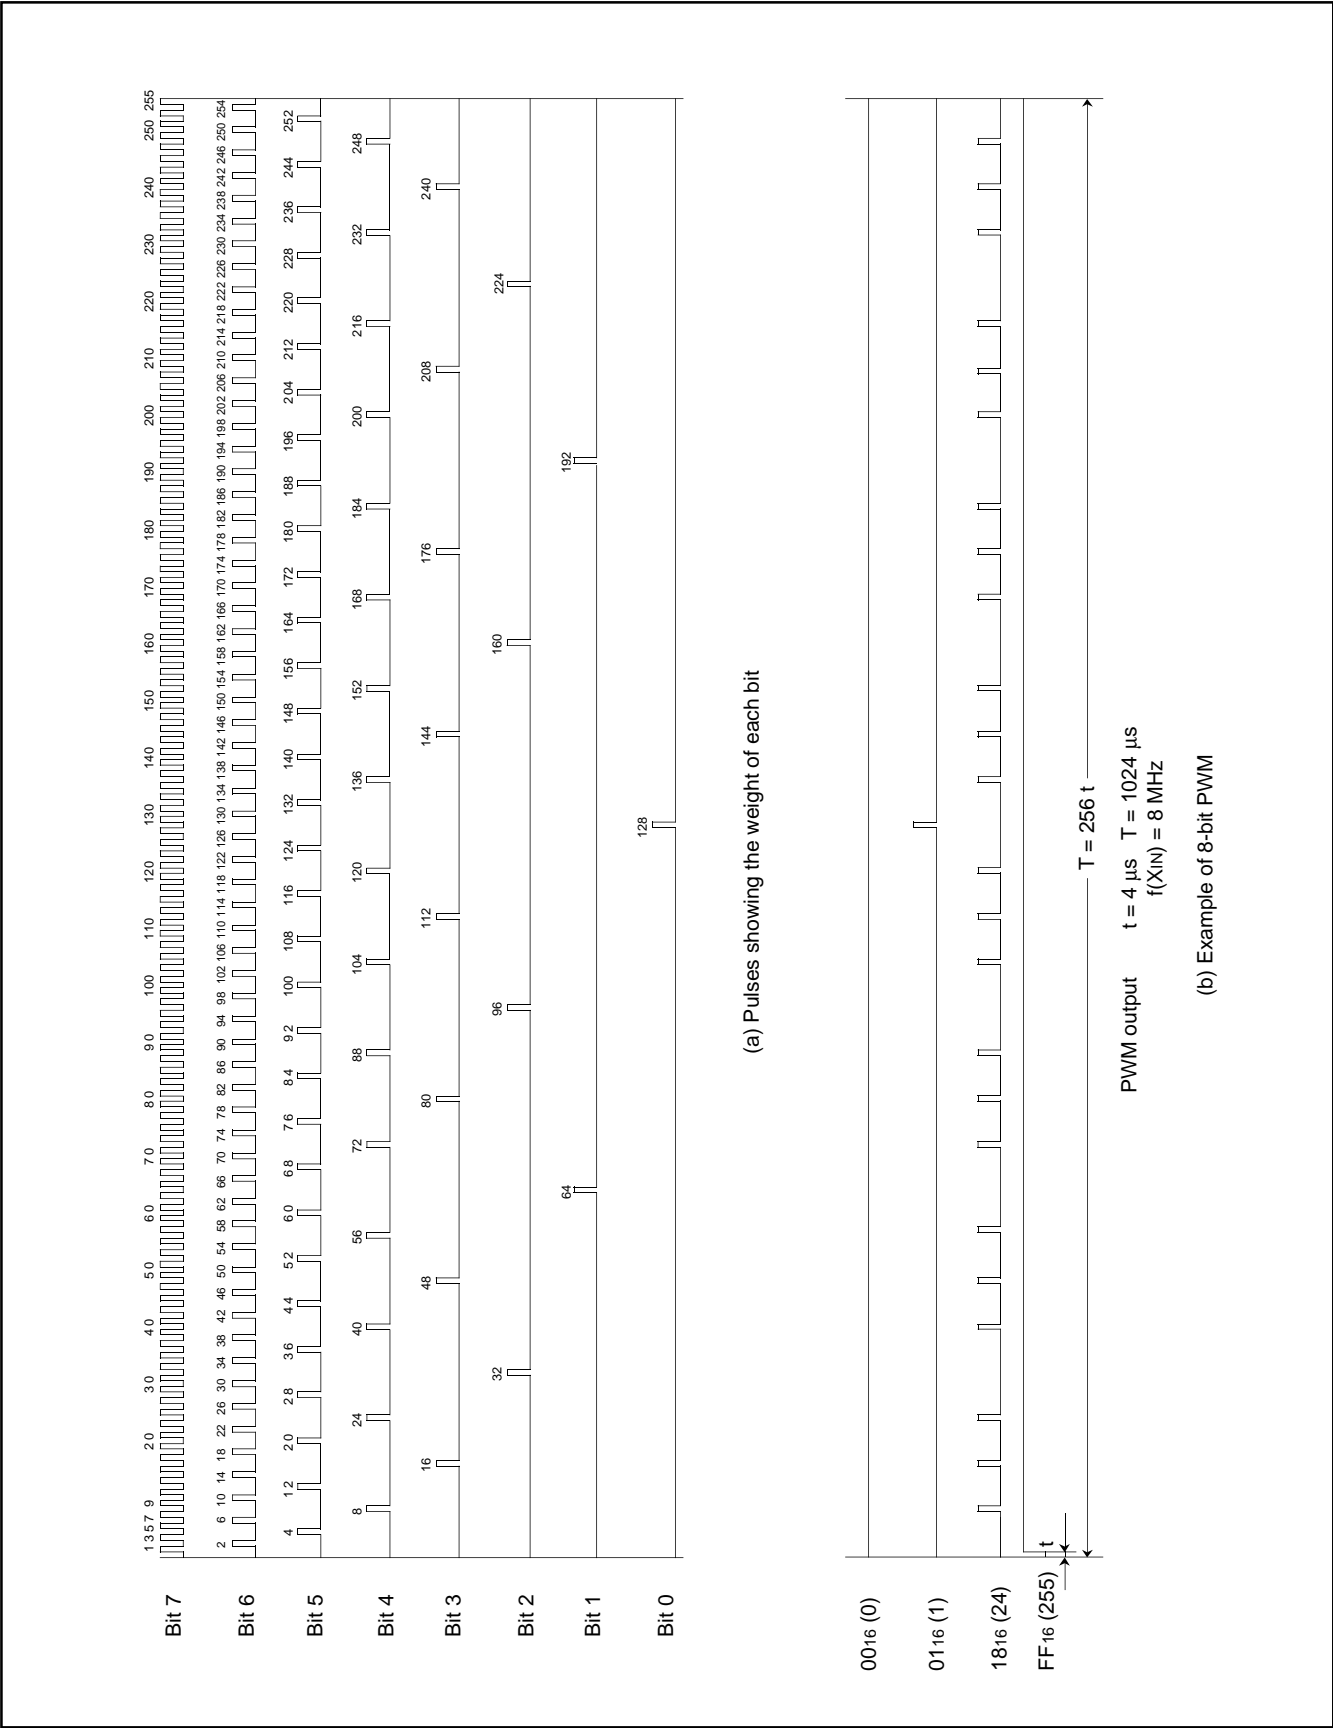

Fig. 8.7.2 PWM Timing
Figure 8.7.2 shows the 8-bit PWM timing. One cycle (T) is composed of 256 (2^8) segments. 8 kinds of pulses, relative to the weight of each bit (bits 0 to 7), are output inside the circuit during 1 cycle. Refer to Figure 8.7.2 (a). The 8-bit PWM outputs a waveform which is the logical sum (OR) of pulses corresponding to the contents of bits 0 to 7 of the 8-bit PWM register. Several examples are shown in Figure 8.7.2 (b). 256 kinds of output (HIGH area: 0/256 to 255/256) are selected by changing the contents of the PWM register. An entirely HIGH section cannot be output, i.e. 256/256.